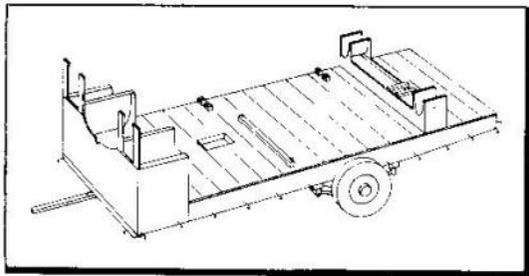

Figure 3 - Trailer for TG-1A Glider
a. Whenever practicable, the complete glider should be shipped in disassembled form, on a specially constructed trailer. This trailer should incorporate sufficient accommodations for securely fastening all major component parts of the glider in as compact a form as possible. (See figure 3.)